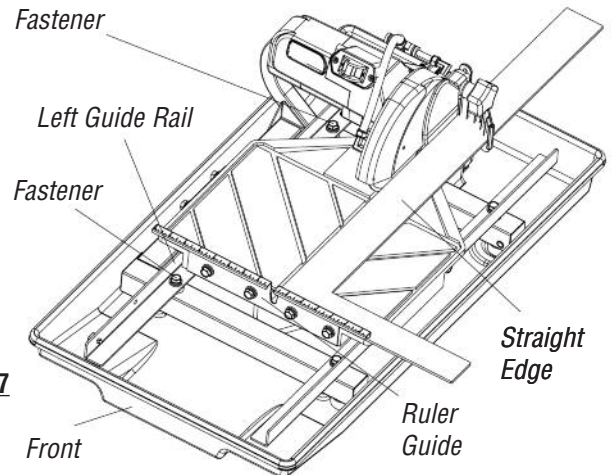

Figure 7
1. Place a straight edge on the cutting table as shown in Figure 7.
2. Loosen the left guide rail by untightening the fasteners found at the ends of the rail. (see figure 7) Do not loosen the rail too much to avoid excessive play during adjustments.